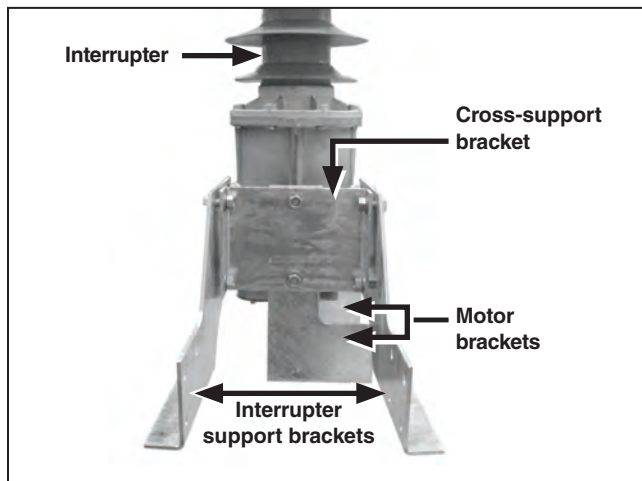
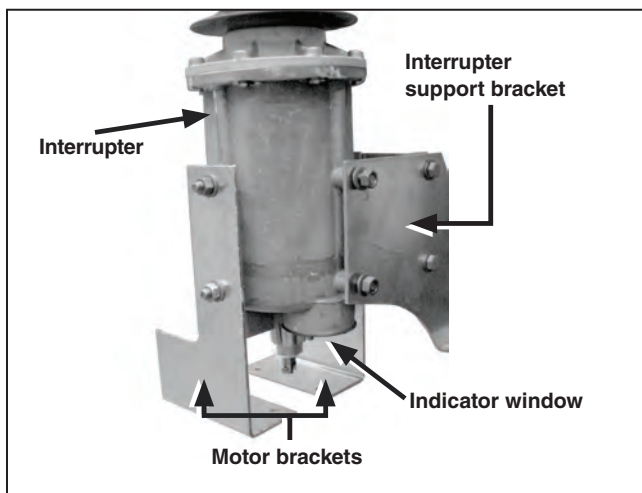

Figure 19. Assemble mounting brackets to interrupter. (69-kV support brackets shown.)
Figure 20. Make sure “L” shaped motor brackets are facing away from the indicator window.
STEP 4. With the interrupter still hoisted off the ground, loosely assemble the two interrupter support brackets, the cross-support bracket, and the motor brackets to the interrupter base as shown in Figure 19, using eight stainless steel $\frac{3}{8}$ -11 \times 2-inch studs, flat washers, and self-locking hex nuts furnished. The motor bracket should be mounted between the cross-support bracket and the interrupter mounting bosses, with the L-shaped portion of the bracket facing away from the indicator window. See Figure 20.